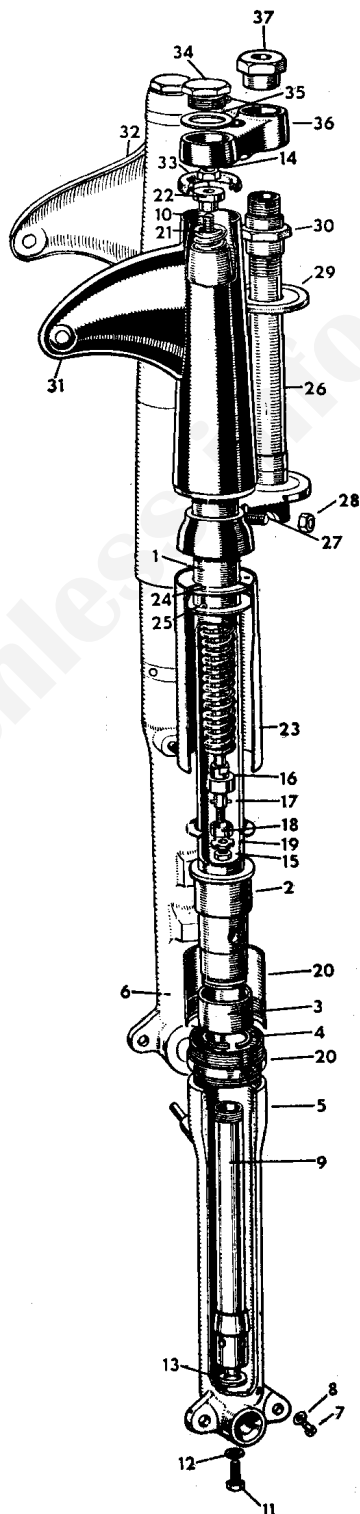

Fig. 2
Use one of the grades of oil, S.A.E. 20 as shown in the table of lubricants. The normal oil content is five fluid ozs. (142 c.c.). Attention is only necessary at the first 1,000 miles and again at 10,000 miles when the oil should be changed by draining. An exploded drawing of the front forks is shown in Fig. 2, from which it will readily be seen that the fork springs abut against the filler plugs (34), before removing these plugs weight must be taken off the front wheel, by placing the machine on its central stand to avoid the forks collapsing.
Remove from the fork slider the bolt fixing damper tube (11). Unscrew the bottom cover (23), holes are provided for a C spanner. Take away the fork slider (5). The damper tube with the fork spring can be extracted from the tube. To dismantle further, take off nut securing fork spring, unscrew the damper tubecap (16) with a tommy bar through the holes in the damper tube, for if this is held in a vice it will distort and become useless. The damper assembly sequence is clearly depicted in Fig. 2.